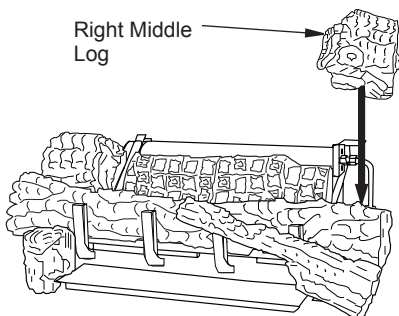

Figure 29 - Installing Right Middle Log
6. The right middle log has a groove on the bottom to sit on the chassis and has to sit on the tab on the back of the right front. The right middle log should have a recess area that fits around the ramp log as shown in Figure 29.